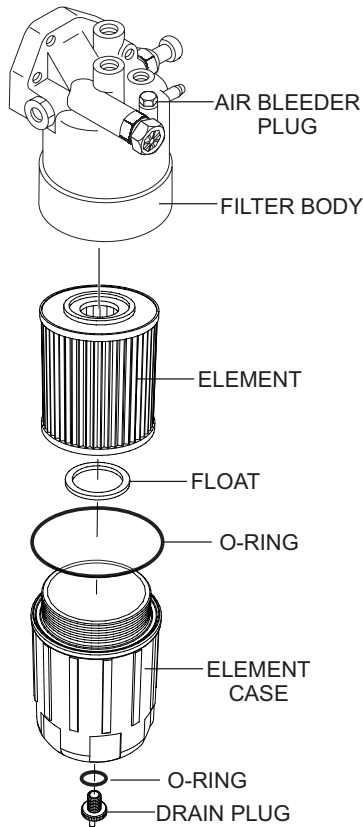

Figure 65. Fuel Filter Replacement
1. Using a **filter wrench**, remove the **element case** from the **fuel filter body** (Figure 65).
2. Wipe the inside of the **filter body** (Figure 65) with a clean cloth to remove any foreign matter or debris that may have accumulated.